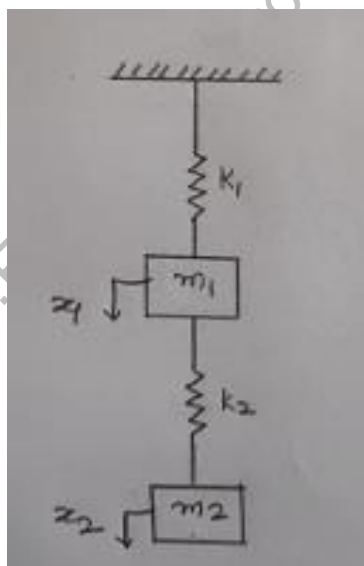

fig.2
- (c) Determine the two natural frequencies of vibration and the ratio of amplitudes of motion m_1 & m_2 for the two mode of vibration for the system shown in fig.2 Take $m_1 = 1.5$ kg , $m_2 = 0.80$ kg , $k_1 = k_2 = 40$ N/m. 07